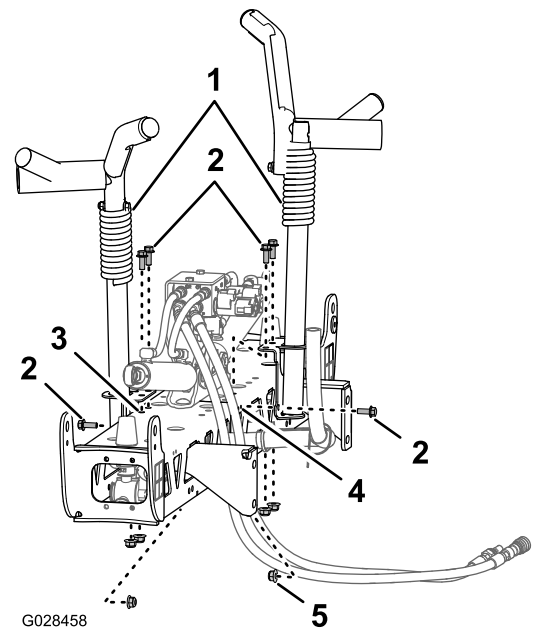
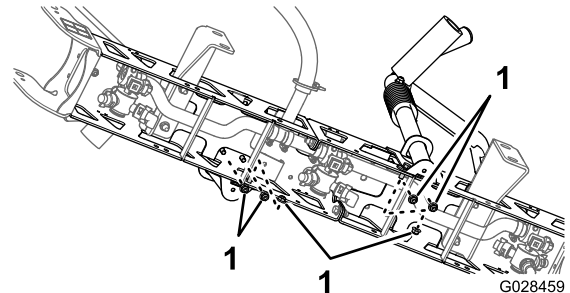

Figure 27
Figure 28
2. Align the boom transport cradles to the center boom section (Figure 27).
3. Assemble the cradles to the boom section (Figure 27 and Figure 28) with 6 bolts (3/8 x 1 inch) and 6 flanged locknuts (3/8 inch).